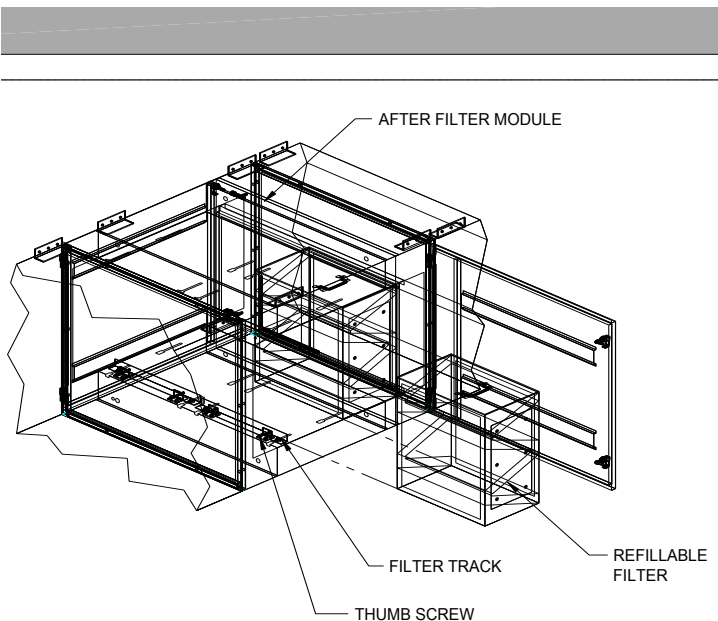

FIGURE 8
3. To remove filters from the After Filter Module, open the filter access door, thereby gaining access to filters. Loosen the eight (8) thumb screws that hold the filter tracks allowing the filters to slide freely, and pull filters out of Filter Module.
4. Refillable charcoal filters are shipped with charcoal separate. To fill charcoal filter, remove the charcoal filter cover (retained with six (6) screws) thereby exposing the filter slots. Carefully pour charcoal (or activated alumina) into the filter slots and reassemble charcoal filter cover to the charcoal filter (see **Figure 8**).